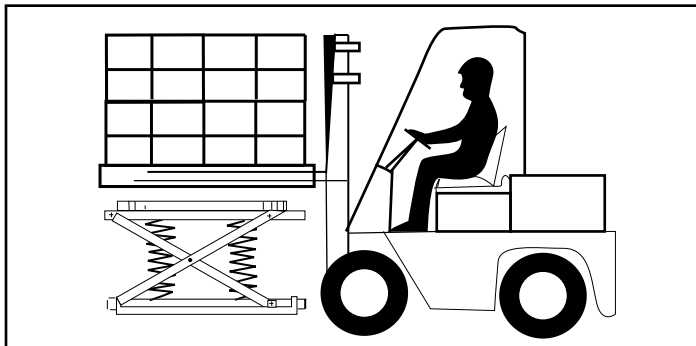

Figure 10- Unloading with a Forklift
1. Insert the forks into the pallet, and lift the pallet clear of the top of the unit. (See Figure 10).